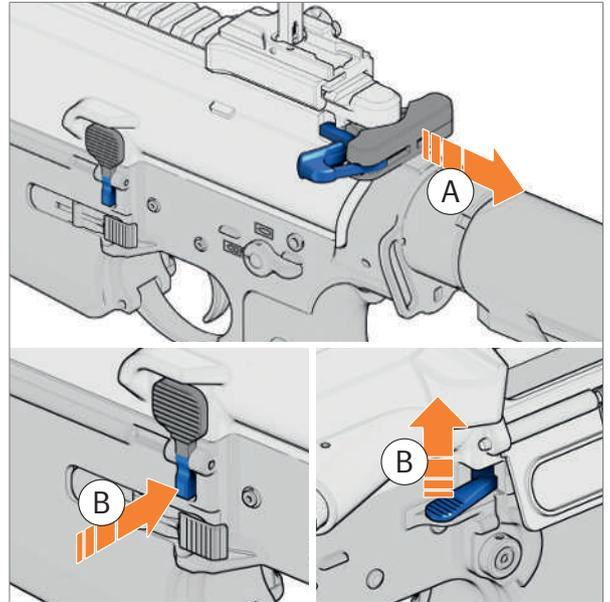

Fig. 18: Lock bolt group into place
1. Pull charging handle all the way back and hold it (*Fig. 18*).
2. Press bolt catch/release and hold it (*Fig. 18*).